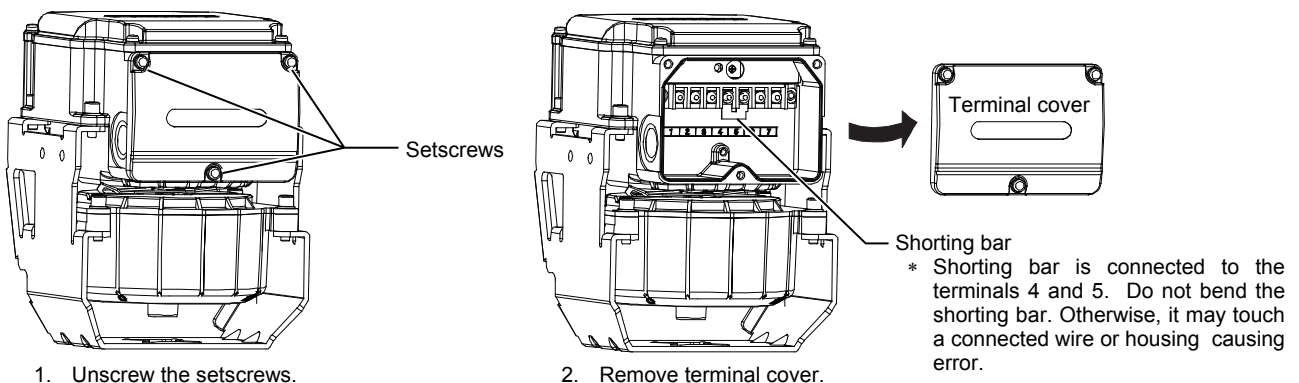

Figure 7. Terminal cover removal
- 2) Unscrew the 3 setscrews (M4 × 10) of the terminal cover and remove the terminal cover, as shown in Fig. 7.
- 1) Unscrew the setscrews and remove the terminal cover. See Fig. 7 for removing the terminal cover.